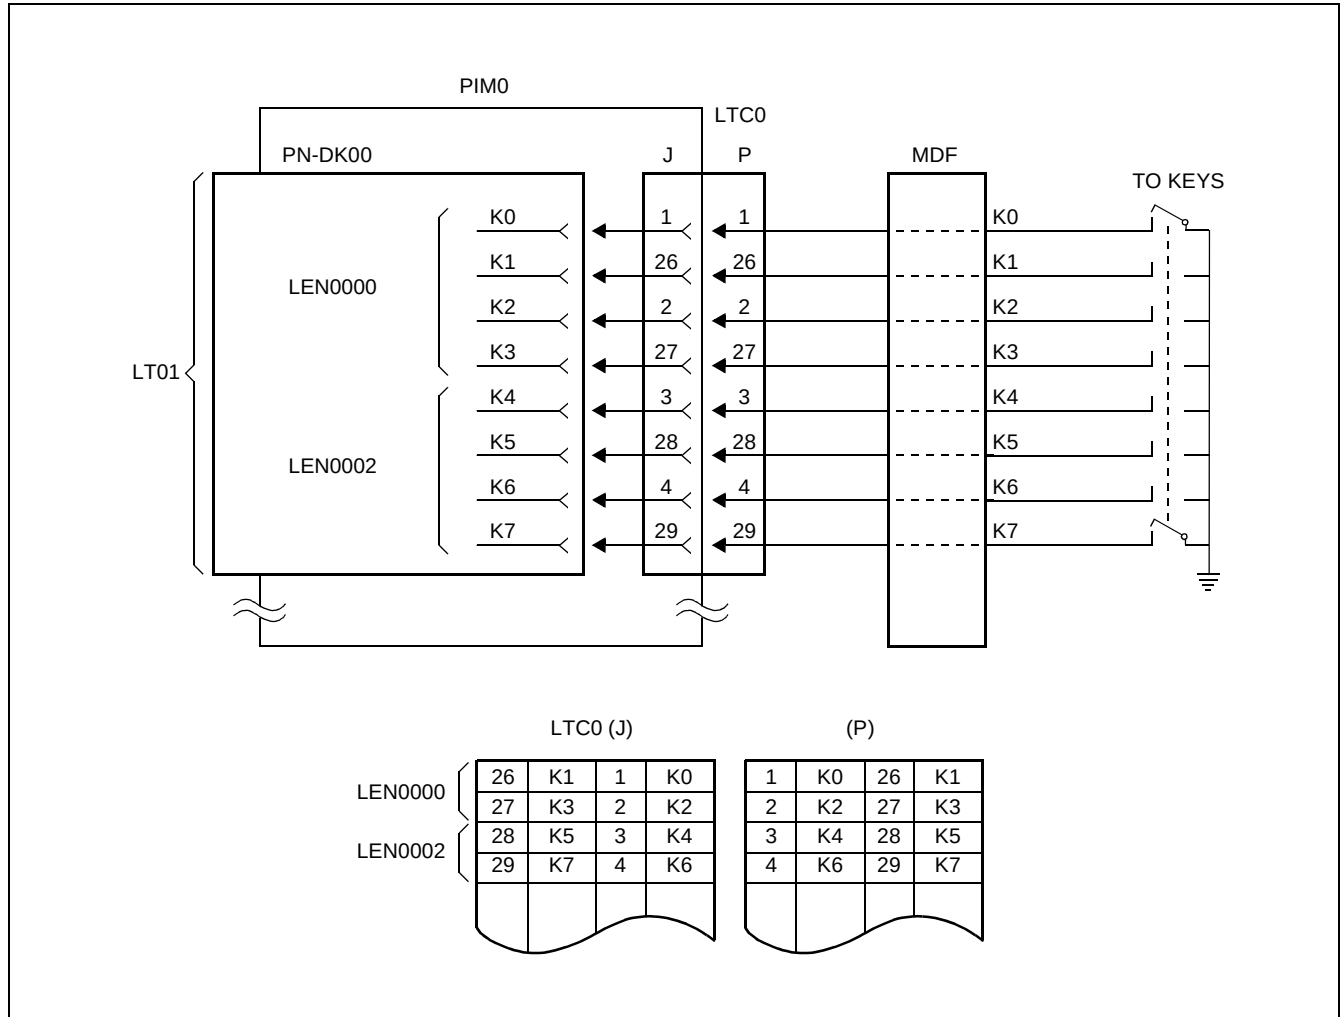

Figure 007-19 MDF Cross Connection for Day/Night Mode Change by External Key
(7) Day/Night Mode Change by External Key (see Figure 007-19)